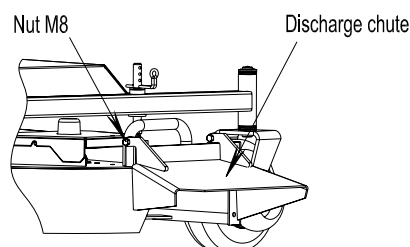

FIG7
- Discharge Chute: Loosen two nuts M8 attaching discharge chute. Lower the discharge chute into position. Retighten nuts until chute is snug but can pivot freely. See FIG7